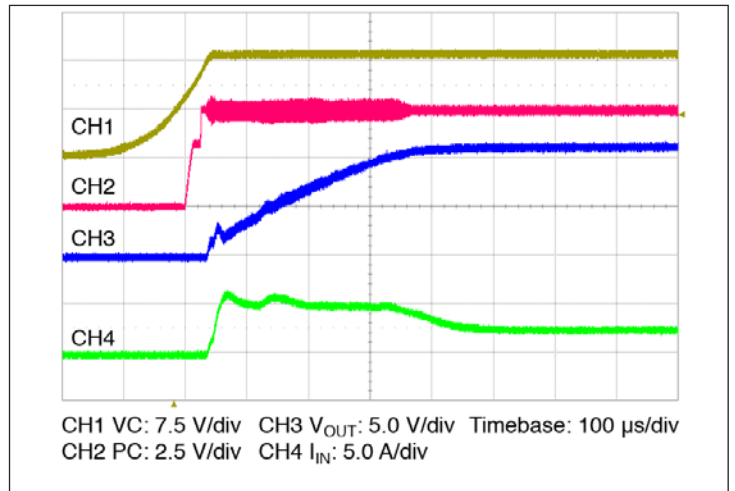

Figure 10 – Start up from application of VC; V_{in} pre-applied
- **Stand Alone Operation (VC applied after V_{IN}):** In this case the VTM output will begin to rise upon the application of the VC voltage (See Figure 10). The output rate of rise will vary depending on the amount of output capacitance in order to limit the inrush current. In this mode of operation, the maximum output capacitance is 500 μ F due to limitations of the inrush limiting circuitry.